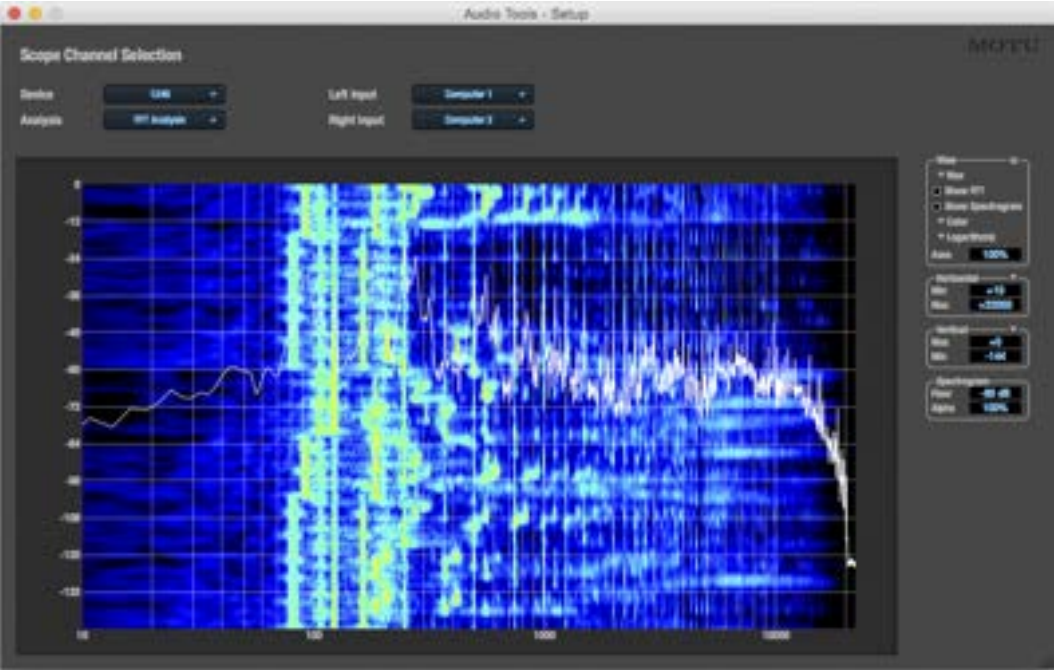

Figure 9-1: The MOTU Audio Tools window with the FFT and Spectrogram Analysis .
If you are working with more than one MOTU audio interface, the *Device* menu (Figure 9-1) displays all interfaces that are currently connected to your host computer. Choose the device you wish to work with.
Choose the desired form of audio analysis from the *Analysis* menu (Figure 9-1). For details on each analysis pane, see the following sections of this guide.
Choose the desired channel(s) you wish to scope from the *Left Input* and *Right Input* menus (Figure 9-1). These menus display the *To Computer* channels configured in the MOTU Pro Audio Control web app. The number of channels shown is controlled by the *To computer* setting in the Routing tab (item 28 on page 21). For example, if 18 channels are specified, you'll see 18 channels in the *Left/Right Input* menus. Use the Routing tab to map desired audio sources (listed across the top of the grid) to the *To Computer* audio channels, as demonstrated in Figure 7-7 on page 79.